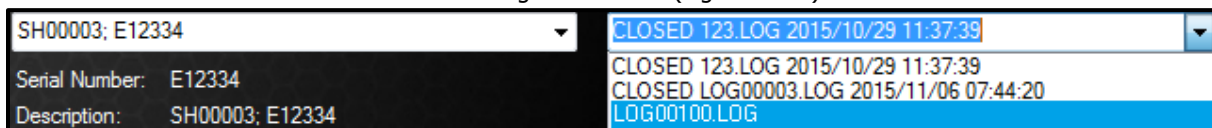

Figure 8.5-1: Select a DataLog
2. Select the current tool and the DataLog to be closed (Figure 8.5-1).